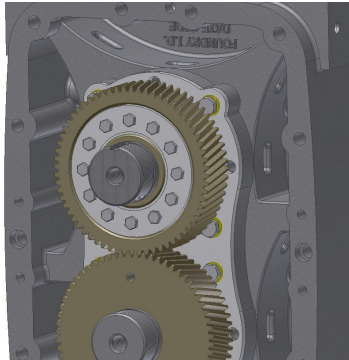

Figure 7-12 – SHRINK DISK/TIMING GEAR INSTALLATION
50. Lightly oil bolt threads, bolt head bearing areas and tapered surfaces of inner ring of shrink disk half (19).
52. Install shrink disk/timing gear assembly onto rotor shaft and align teeth so timing gear and pinion gear mesh. Firmly push against bearing inner race. Finger tighten the 12 locking bolts ensuring the gear can still be rotated on shaft. Reference FIGURE 7-12.